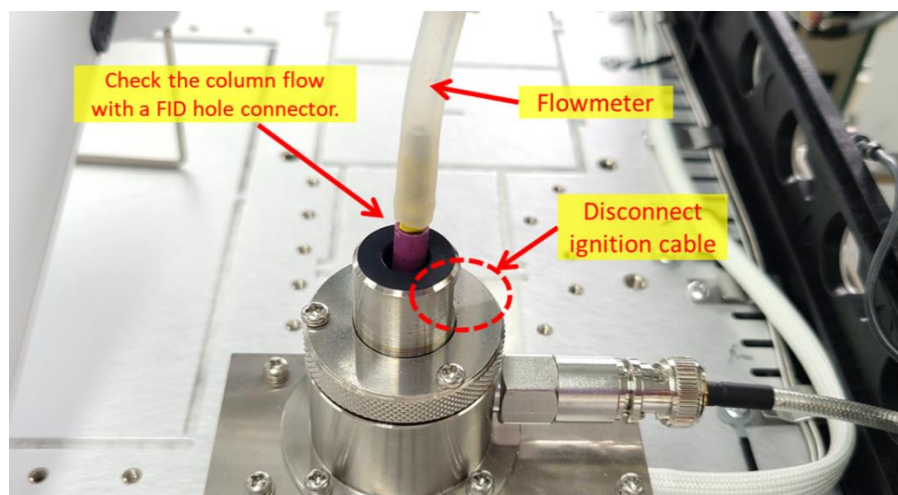

Figure 7. How to check the capillary column flow
*\* When you check the actual 'Column' flow rate using a digital flowmeter, disconnect the ignitor from the FID body first, and then place the digital flowmeter into the hole of the FID as shown in Figure 7 (When a capillary column installed with FID detector).*
\* When you check the actual 'Column' flow rate using a digital flowmeter, disconnect the ignitor from the FID body first, and then place the digital flowmeter into the hole of the FID as shown in Figure 7 (When a packed column installed with FID detector).